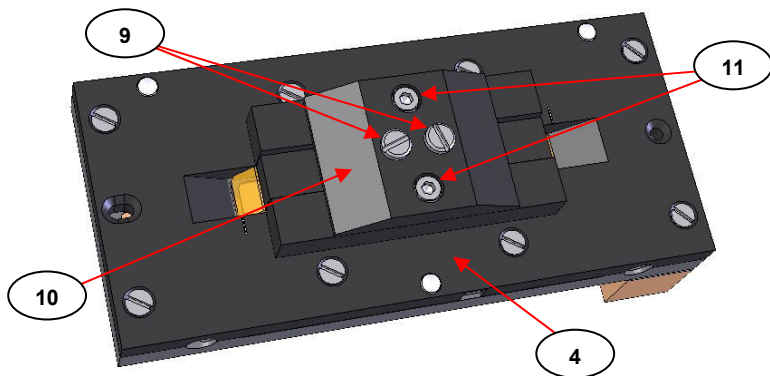
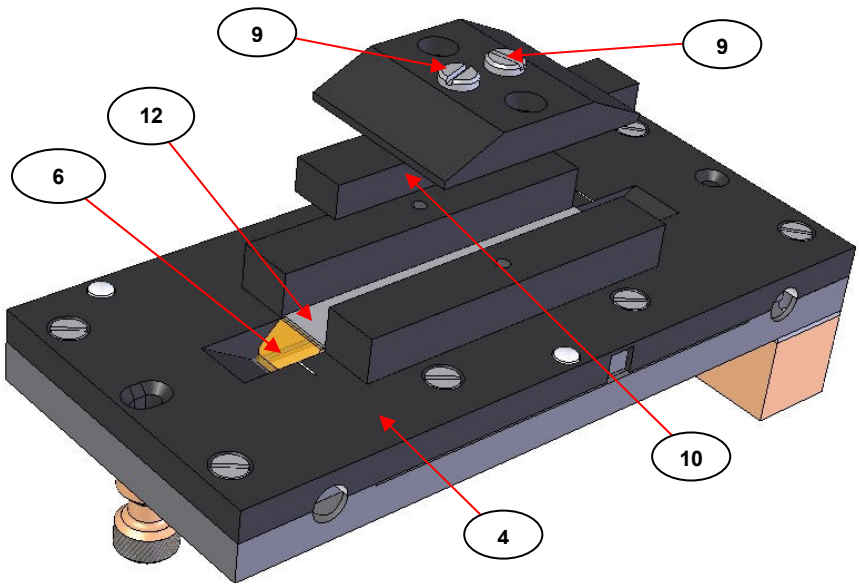

Fig 5. Underside of Heated Trough Top Plate Assembly
Fig 6. Lead Pad on Underside of ATR Crystal with Removal of Lower Clamp Pressure Plate Assembly
- 1) Lay the Top Plate assembly on to a clean workspace area and proceed to remove the two M3 x 8mm cap head screws (11) from the lower clamp pressure plate assembly (10) on the underside of the Top Plate assembly using the 2.5mm A/F Allen key supplied. Turn the screws (11) anticlockwise to remove. (See Fig 5.)
- 2) Between the underside of the lower clamp plate assembly (10) and the ATR crystal (6) there is a protective lead pad (12). Carefully remove the lower clamp plate assembly (10) away to gain access to the lead pad (12). (See Fig 6.) The lead pad (12) may be stuck close to the underside of the crystal (6) and so it needs to be removed very carefully away from the crystal.
- 3) Carefully replace the lower clamp pressure plate (10) assembly over the lead pad (12) and crystal (6) and refit the two screws (11). Ensure that the lead pad (12) and crystal (6) are not dislodged from their central positioning. (See as for Fig 6 and Fig 5.)